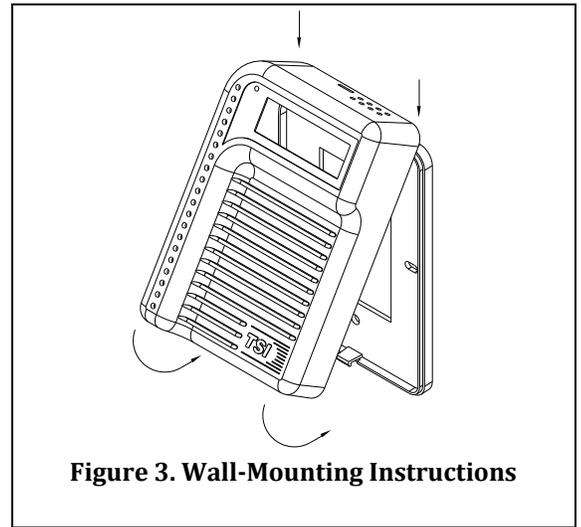

Figure 3. Wall-Mounting Instructions
- For the wall-mount version, hook the monitor to the top of the mounting bracket. Then, clip the bottom of the monitor to the mounting bracket (Figure 3).